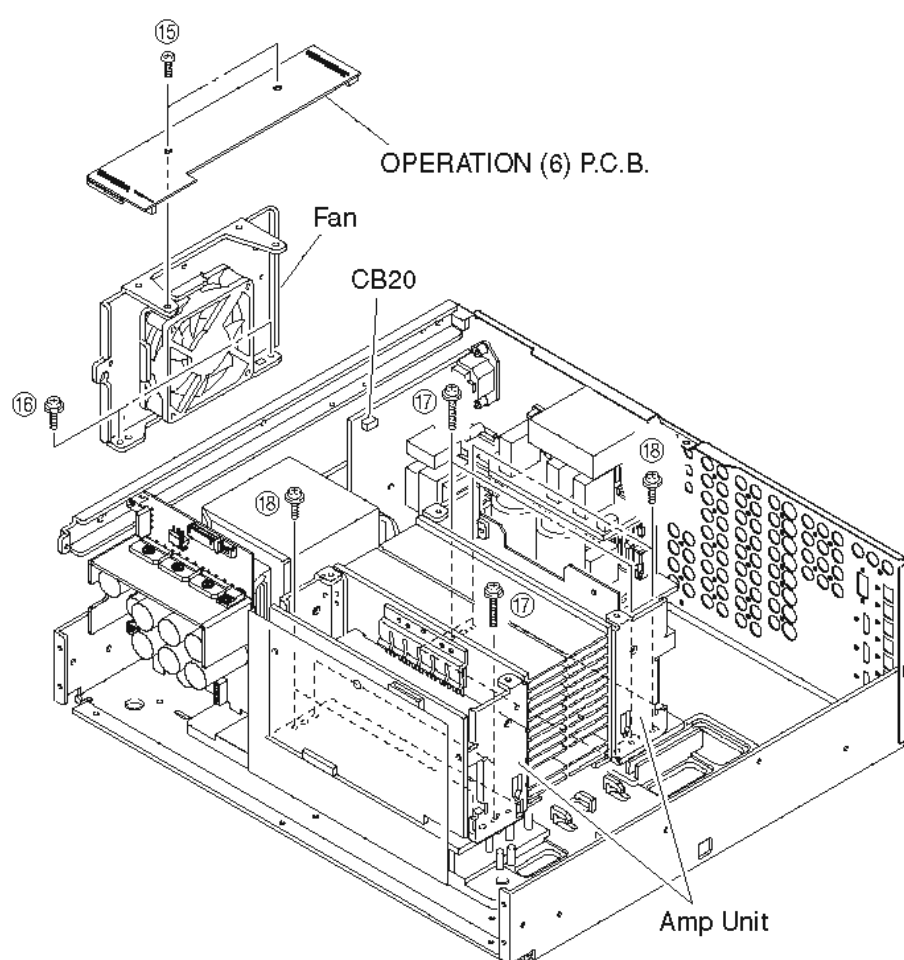

Fig. 6
6. Removal of OPERATION (6) P.C.B.
- Remove 2 screws (15). (Fig. 6)
- Remove the OPERATION (6) P.C.B. which is connected directly to the lower P.C.B. with connectors. (Fig. 6)
- Remove CB20. (Fig. 6)
- Remove 2 screws (16). (Fig. 6)
- Remove the Fan together with the frame by lifting them up. (Fig. 6)
- Remove 4 screws (17) and 4 screws (18). (Fig. 6)
- Remove the Amp Unit. (Fig. 6)